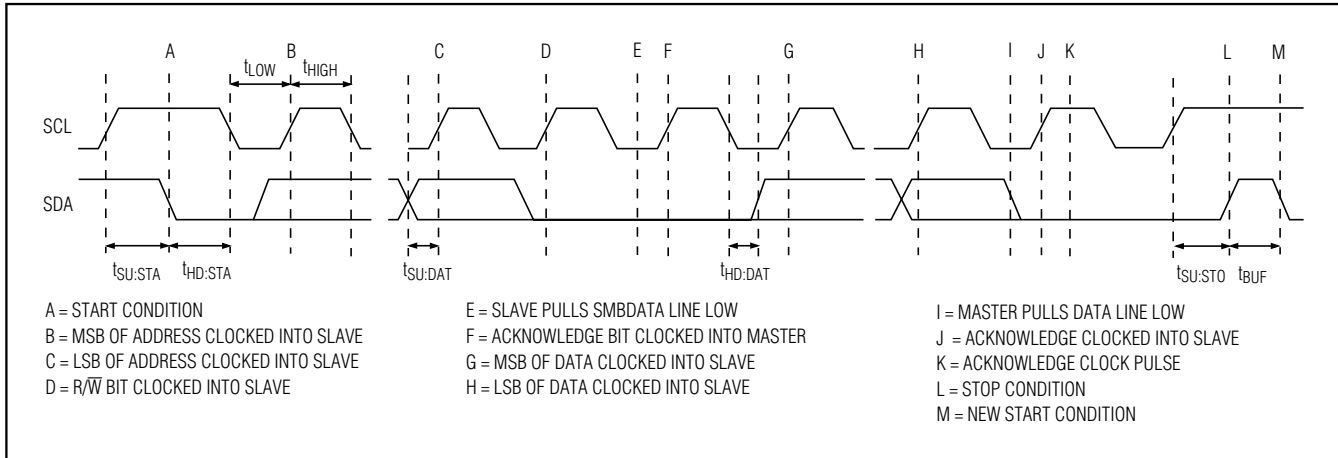

Figure 3. I²C Write Timing Diagram
The master initiates a transmission with a START condition (S), a high-to-low transition on SDA with SCL high. The master terminates a transmission with a STOP condition (P), a low-to-high transition on SDA while SCL is high (Figure 3). The STOP condition frees the bus and places all devices in F/S mode (Figure 1). Use a repeated START condition (Sr) in place of a STOP condition to leave the bus active and in its current timing mode.